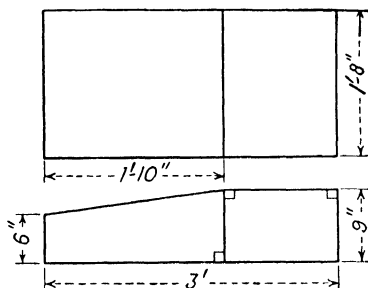

Fig. 90.
10. An airplane has 2 gasoline tanks, each with the specifications shown in Fig. 90. How many gallons of fuel can this plane hold?